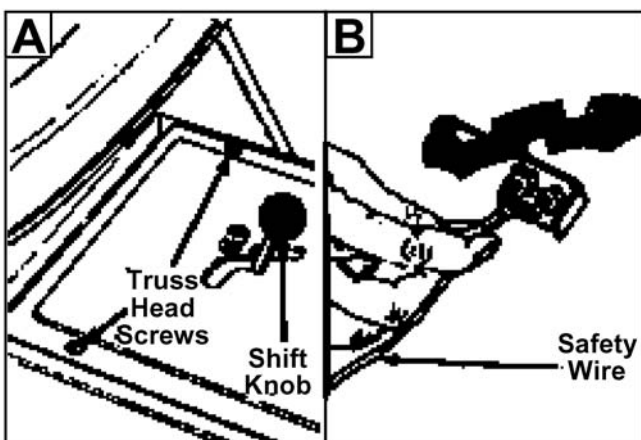

Figure 7-42. Rear Drive Belt
- Place shift lever in neutral position. Unscrew the shift knob and the speed control knob (if located on the console). Remove the two truss head screws which secure the transmission cover. See Figure 7-42.